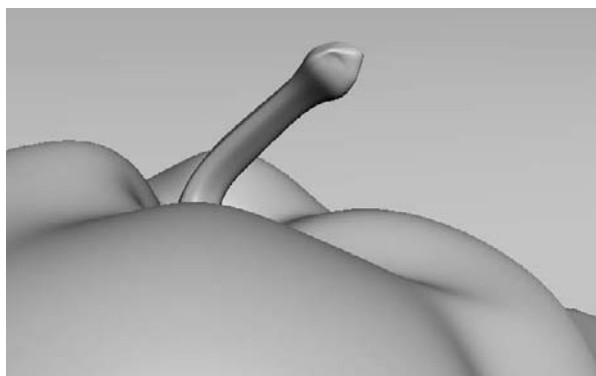

Figure 11.7
*Aliasing* is the staircase effect you see in an image just at the edge of a line or area of color, particularly when that edge is at an angle, as shown in Figure 11.7.